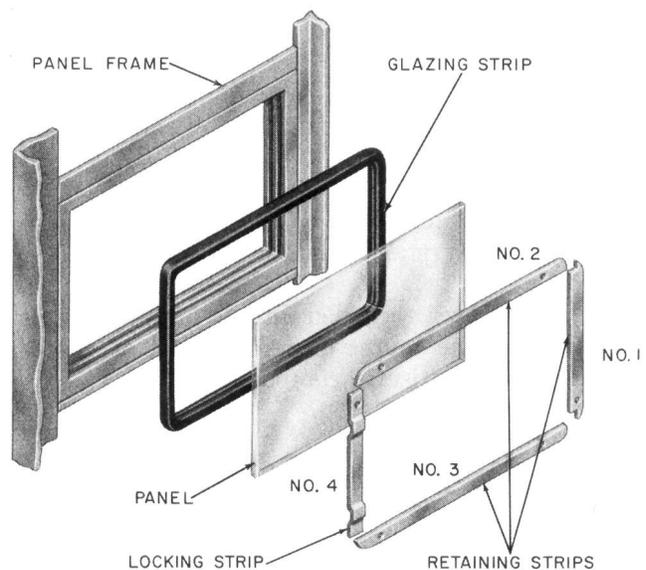

Fig. 24—Assembly of Side or Rear Panels
4.10 Booth panels and signs are held in place by four interlocking retaining strips. They are inserted in sequence as shown in Fig. 24. The No. 4 strip is rippled and is held in place by interface friction.
- (1) Remove No. 4 locking strip.
- (2) Remove retaining strips No. 2 and No. 3.
- (3) Remove retaining strip No. 1.
- (4) Remove panel and rubber glazing strip.
- (5) Apply rubber glazing strip to replacement panel.
- (6) Insert panel into frame with the beaded edge of retaining strip on the outside.
- (7) Replace retaining strips in sequence as shown in Fig. 24.
4.15 The side and rear signs are removed in the same manner as the side panels (Fig. 24).
4.45 Replace glass panels in same manner as side panels (Fig. 24).